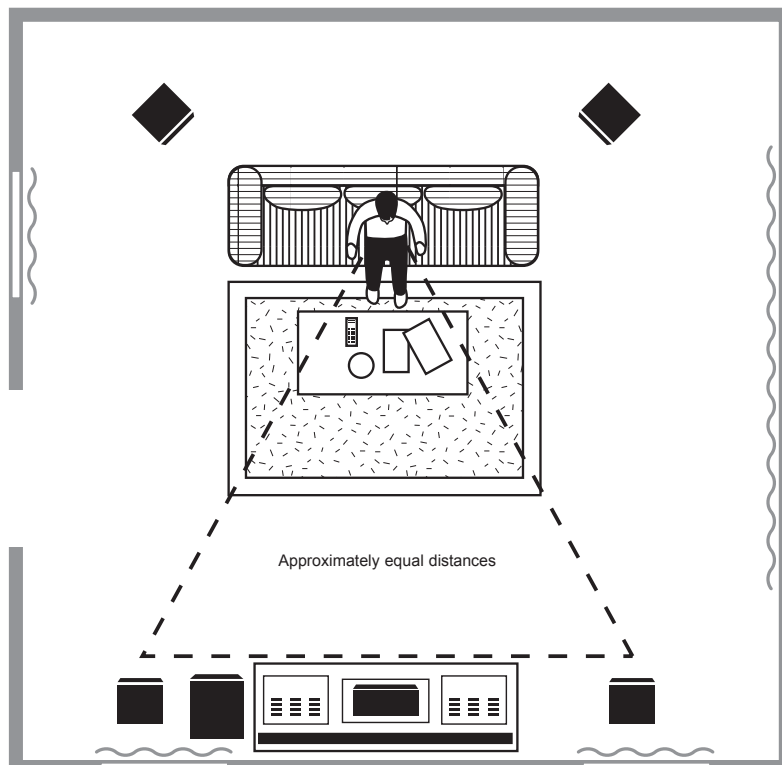

Figure 3.1
3. PLACING THE SUBWOOFER (Figure 3.1)